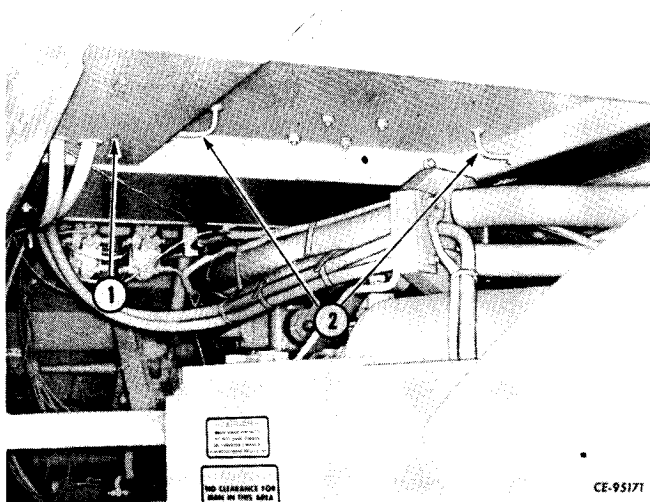

Figure 4-6
NOTE: The transmission may be removed without removing the operator's compartment by positioning a hoist on the two supports (2, Fig. 4-6) provided under the operator's compartment (1). This hoist can be used to lower the transmission from the tractor.